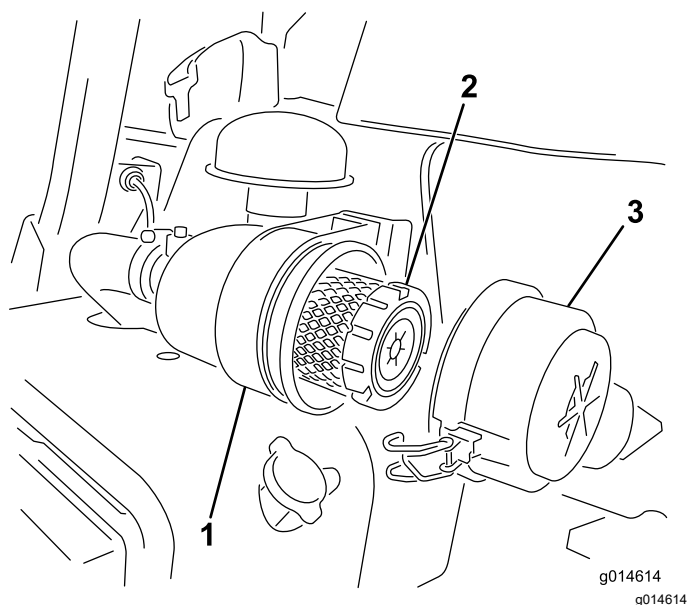

Figure 33
1. Release the latches securing the air-cleaner cover to the air-cleaner body (Figure 33).
7. Secure the latches (Figure 33).